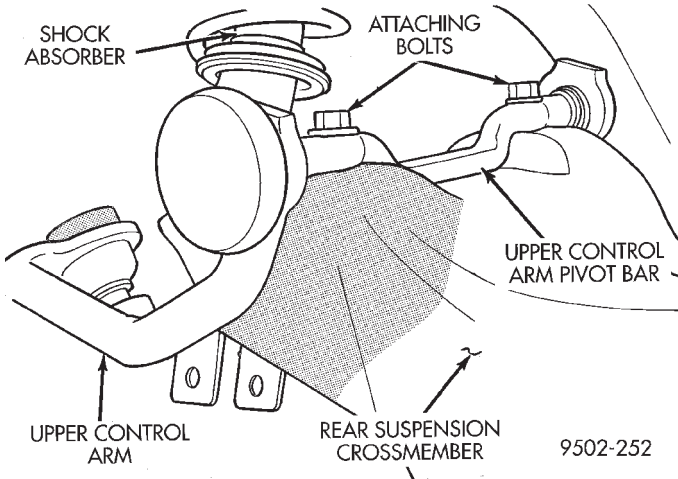

Fig. 28 Upper Control Arm Attachment To Crossmember
(10) Lower the rear suspension crossmember far enough to access the upper control arm pivot bar to crossmember attaching bolts. Remove the 2 bolts (Fig. 28) attaching the upper control arm to the rear suspension crossmember.
(11) Remove the upper control arm from the vehicle.
(12) Transfer any required components to the replacement control arm.
(1) Align the upper control arm pivot bar with the mounting holes in the rear suspension crossmember. Install and tighten the 2 pivot bar to crossmember attaching bolts (Fig. 28) to a torque of 107 N-m (79 ft. lbs.).